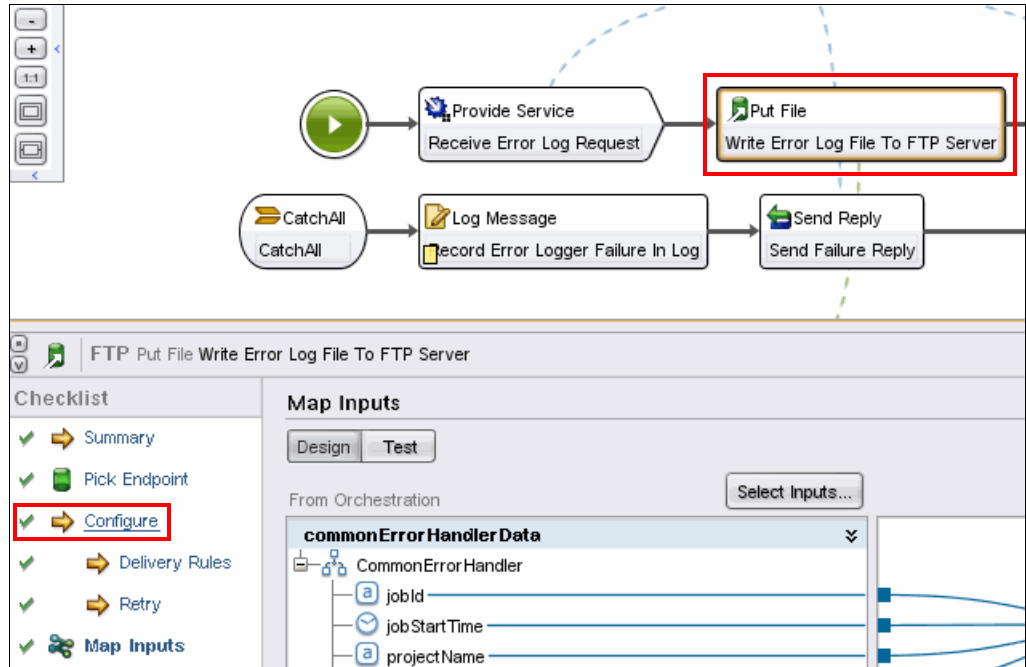

Figure 7-12 Select Configure of the activity to drag to the steps
- a. Drag the Configure task from the checklist of the “Write Error Log File To FTP Server” activity in the orchestration to the Steps panel to add a step with the name Configure, as shown in Figure 7-12.